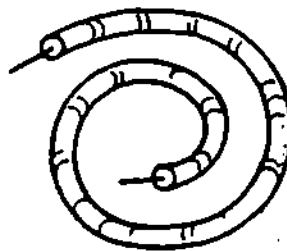

Figure 11
- ⑬. A typical time delay for standard coaxial cable is .010 microseconds ($.010 \mu$ second) per meter. To produce even a 1μ second delay would require one hundred meters of coaxial cable. The cable may be coiled to reduce its physical size as shown in Figure 11.